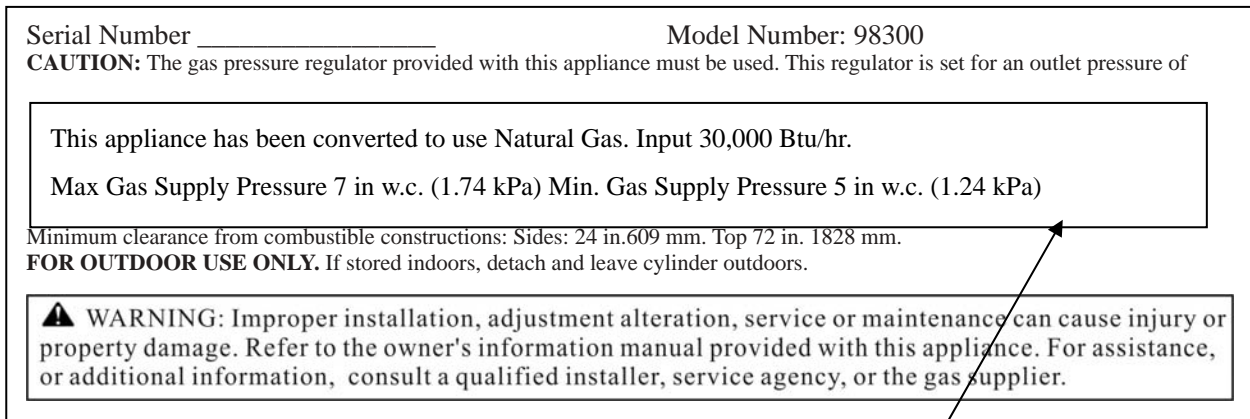

Figure 10
4. Stick the conversion label on the rating plate as shown in Figure 10.